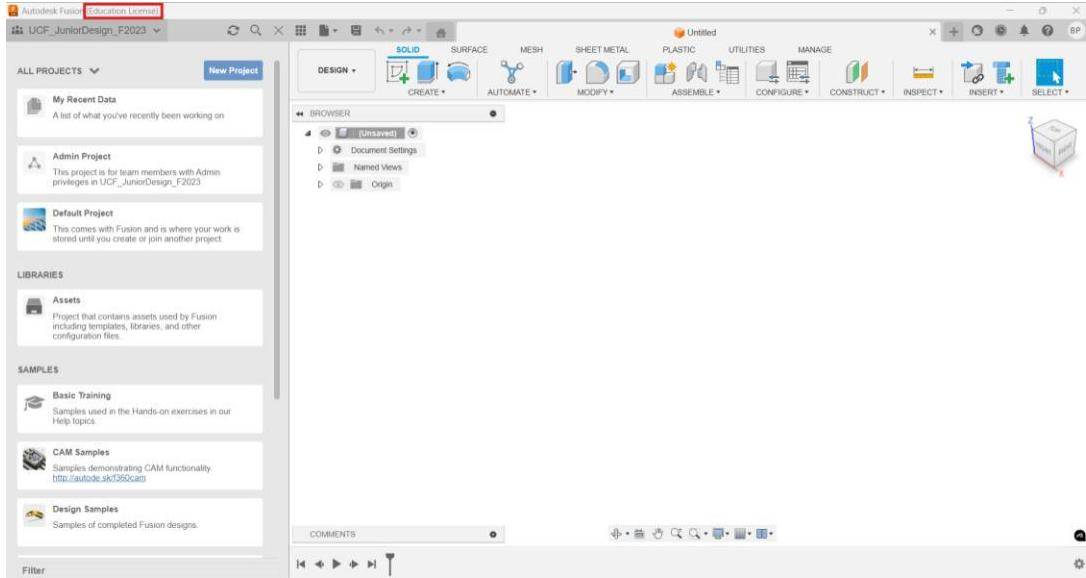

Figure 1: Fusion's startup screen.
3.1: Start the FUSION 360 program. Login into Fusion to have access to the educational license. Figure 1 shows the startup window.